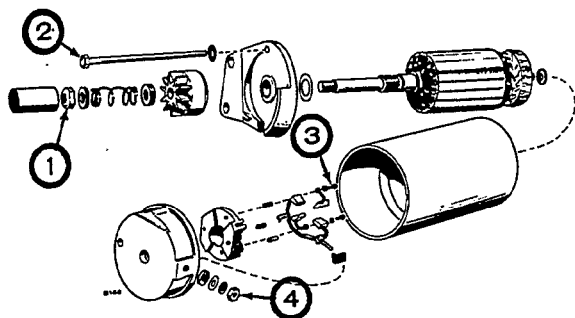

FIGURE 18. STARTER DISASSEMBLY
1. Remove the through-bolts and separate the end cap, the housing and the armature (see Figure 18).
2. Torque bolts (Figure 18, item 3) to a value of 3 to 3-1/2 ft-lbs.
3. Torque nut (Figure 18, item 4) to a value of 4 to 5 ft. lbs.
5. Torque stop nut (Figure 18, item 1) to a value of 20 to 25 ft-lbs. Hold armature in a vise.
6. Torque thru-bolts (Figure 18, item 2) to a value of 4-1/2 to 6 ft-lbs.